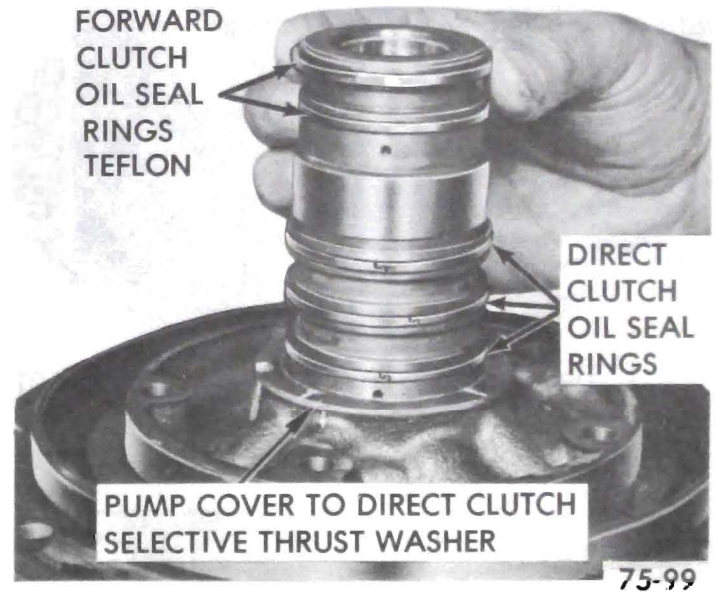

Figure 75-135
replacement is necessary, use two metal hook type service replacement rings. See Figure 75-135.
11. Install three (3) direct clutch to pump hub hook type oil seal rings. Inspect two (2) forward clutch to pump hub teflon oil seal rings, for service if rings require replacement use hook type cast iron rings. See Figure 75-135.